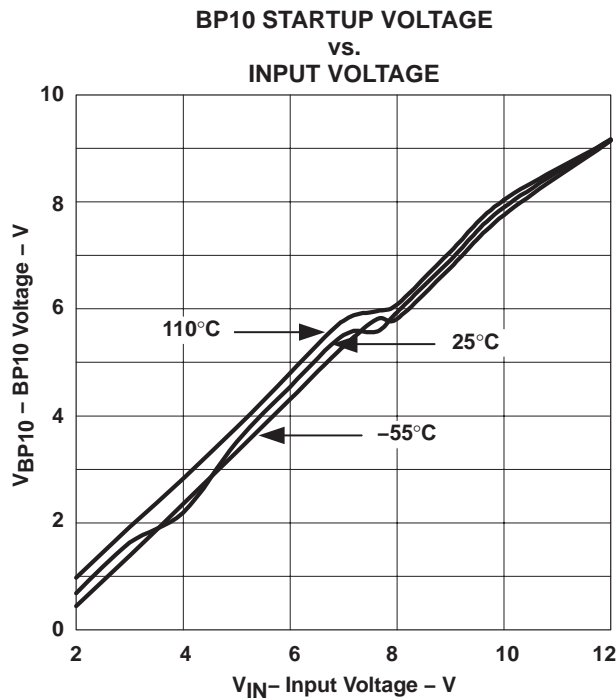

Figure 9.
Use Figure 9 to determine the value of BP10 that corresponds to V_{IN} , used to calculate the UVLO point. Using the value of BP10 from Figure 9, calculate the value of resistor between BP10 and KFF that yields the same I_{KFF} current from equation (5).
- BP10 is the internal linear regulator output (see Figure 9)